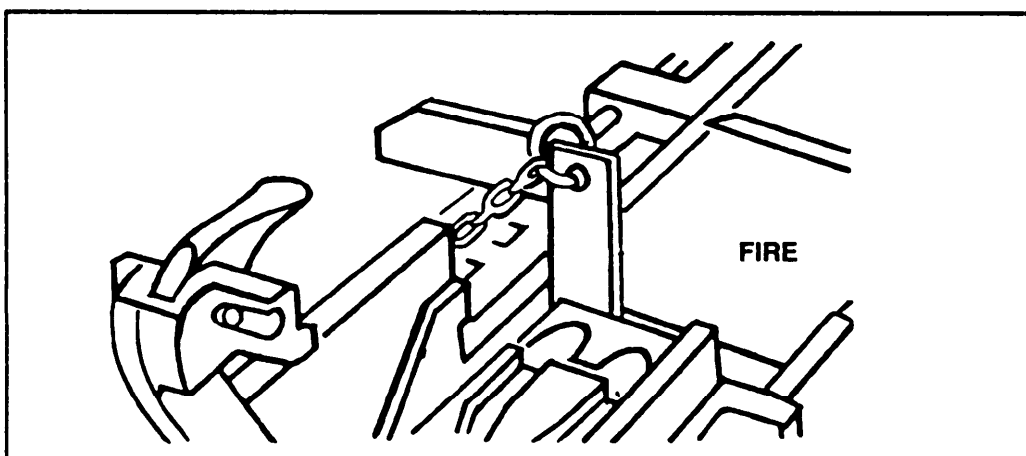

**Figure 3-23. Inserting the no-fire gauge.**
(1) Check headspace first as previously described.
(2) Pull the bolt to the rear with the retracting slide handle and then ease bolt fully forward to cock the machine gun.
(3) Grasp the retracting slide handle and retract the bolt just enough (1/16 inch) to insert the no-fire gauge between the barrel extension and the trunnion block. Release the retracting slide handle (Figure 3-23).
(4) Depress the trigger. Gun should not fire.